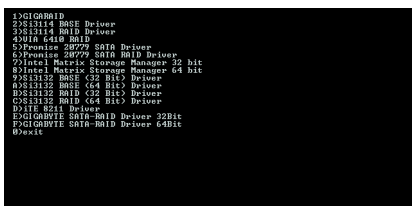
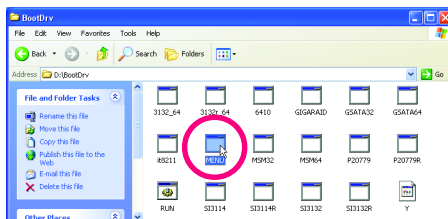

Figure 2
Figure 3
Step 2: When the controller menu (Figure 2) appears, remove the startup disk and insert the blank formatted disk. Select the controller driver by pressing the corresponding letter from the menu. For example, from the menu in Figure 2:
- For Intel ICH9R SATA controllers, select **(7) Intel Matrix Storage Manager 32 bit** for Windows XP/Vista 32-bit operating system or **(8) Intel Matrix Storage Manager 64 bit** for Windows 64-bit.
Use an alternative system and insert the motherboard driver disk. From your optical drive folder, double click the **MENU.exe** file in the **BootDrv** folder (Figure 3). A command prompt window will open similar to that in Figure 2.